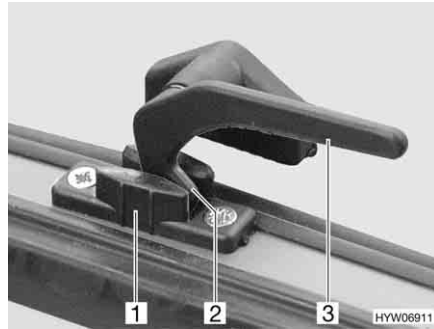

Fig. 51 Catch lever in the "continuous ventilation" position
- "Continuous ventilation" (Fig. 51)
- Turn the catch lever (Fig. 51,3) a quarter turn towards the centre of the window.
- Turn the catch lever a quarter turn towards the window frame. The locking catch (Fig. 51,2) has to be moved into the recess of window catch (Fig. 51,1).